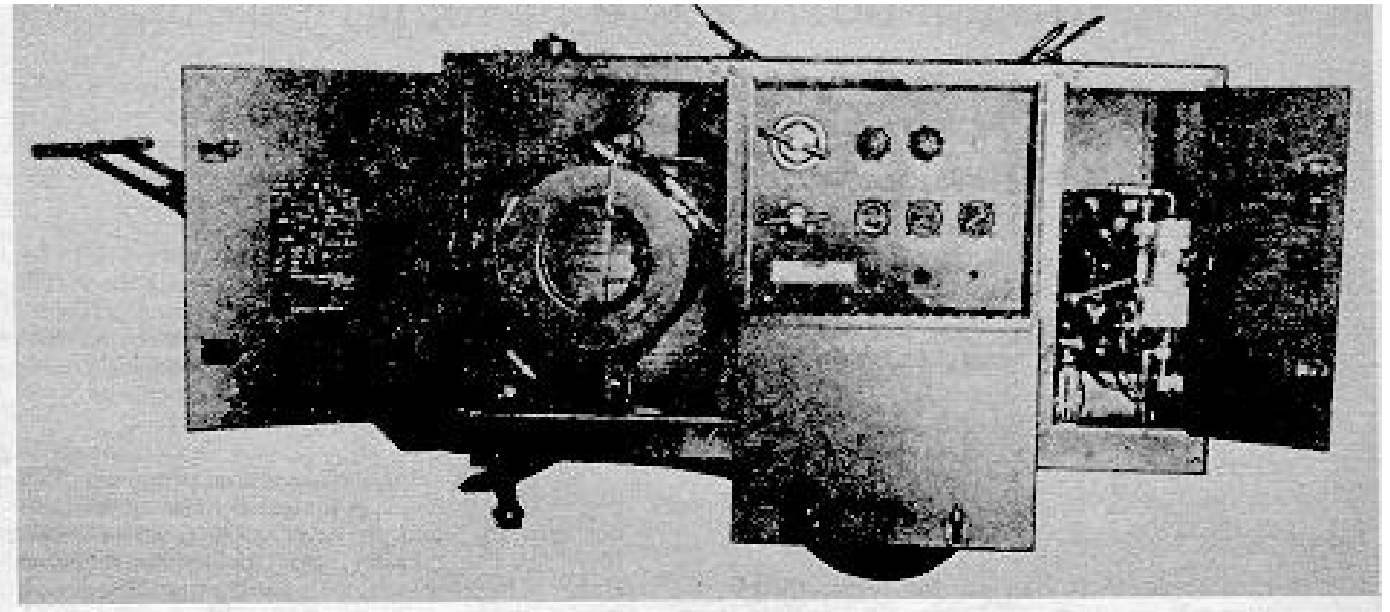

Figure 1-3. Left Side View with Access Doors Open
2. Close drain valve adjacent to filter and separator assembly (see Figure 1-3).